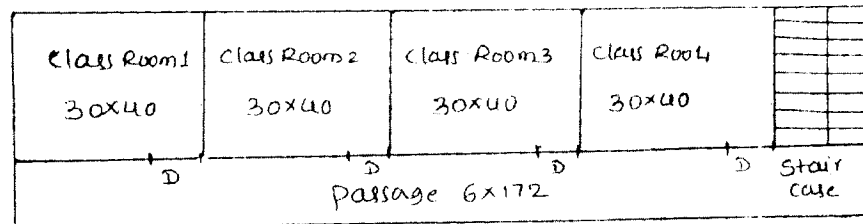

Fig. Q3 (b)
- b. Ground floor plan of school is shown in Fig. Q3 (b) which has same plan for floor 1 and 2. Rig up with conduit wiring system and calculate